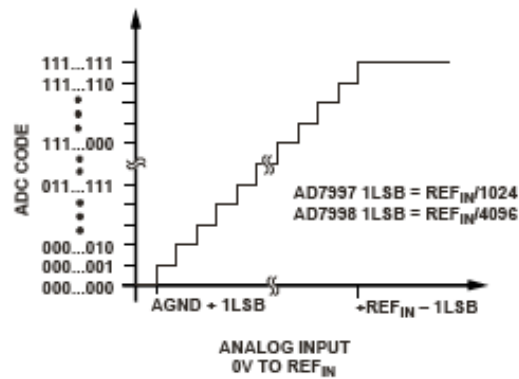

Figure 7: Analog Devices AD7997 Specification
6. The Analog Devices AD7997 is an 8 channel, 10-bit, high speed, low power, successive-approximation ADC. Figure 7 is the complete ADC technical specification from the Analog Devices website. Assume  $REF_{IN} = 5V$ ,  $AGND = 0V$ .